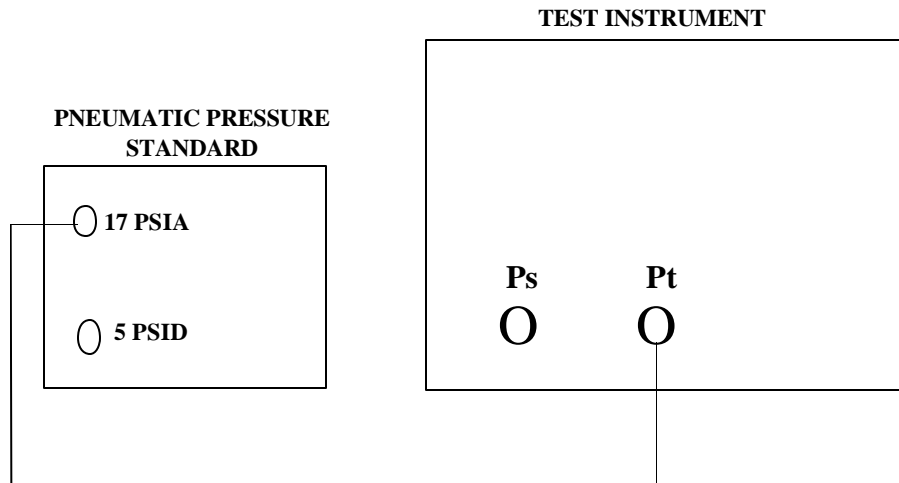

Figure 2. Calibration check (No.2).
(1) Connect equipment as in figure 2.